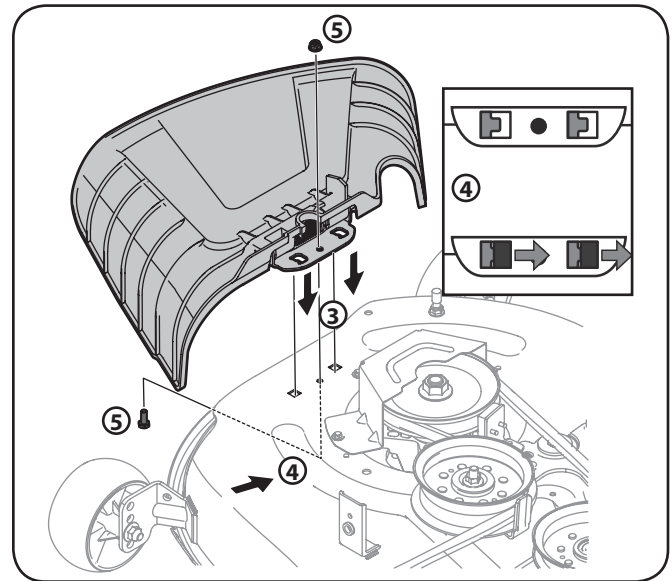

Figure 3-4
3. Place the chute deflector on the deck, be sure to insert the tabs on the chute deflector into the holes on the deck. See Figure 3-4.
4. When the tabs are installed in the deck, slide the chute deflector toward the rear of the tractor until the bolt hole in the chute deflector aligns with the hole in the deck. See Figure 3-4.
5. Secure the chute deflector in place with the flange lock nut and hex screw removed in step 2. Tighten to 102-124 in-lbs. See Figure 3-4.